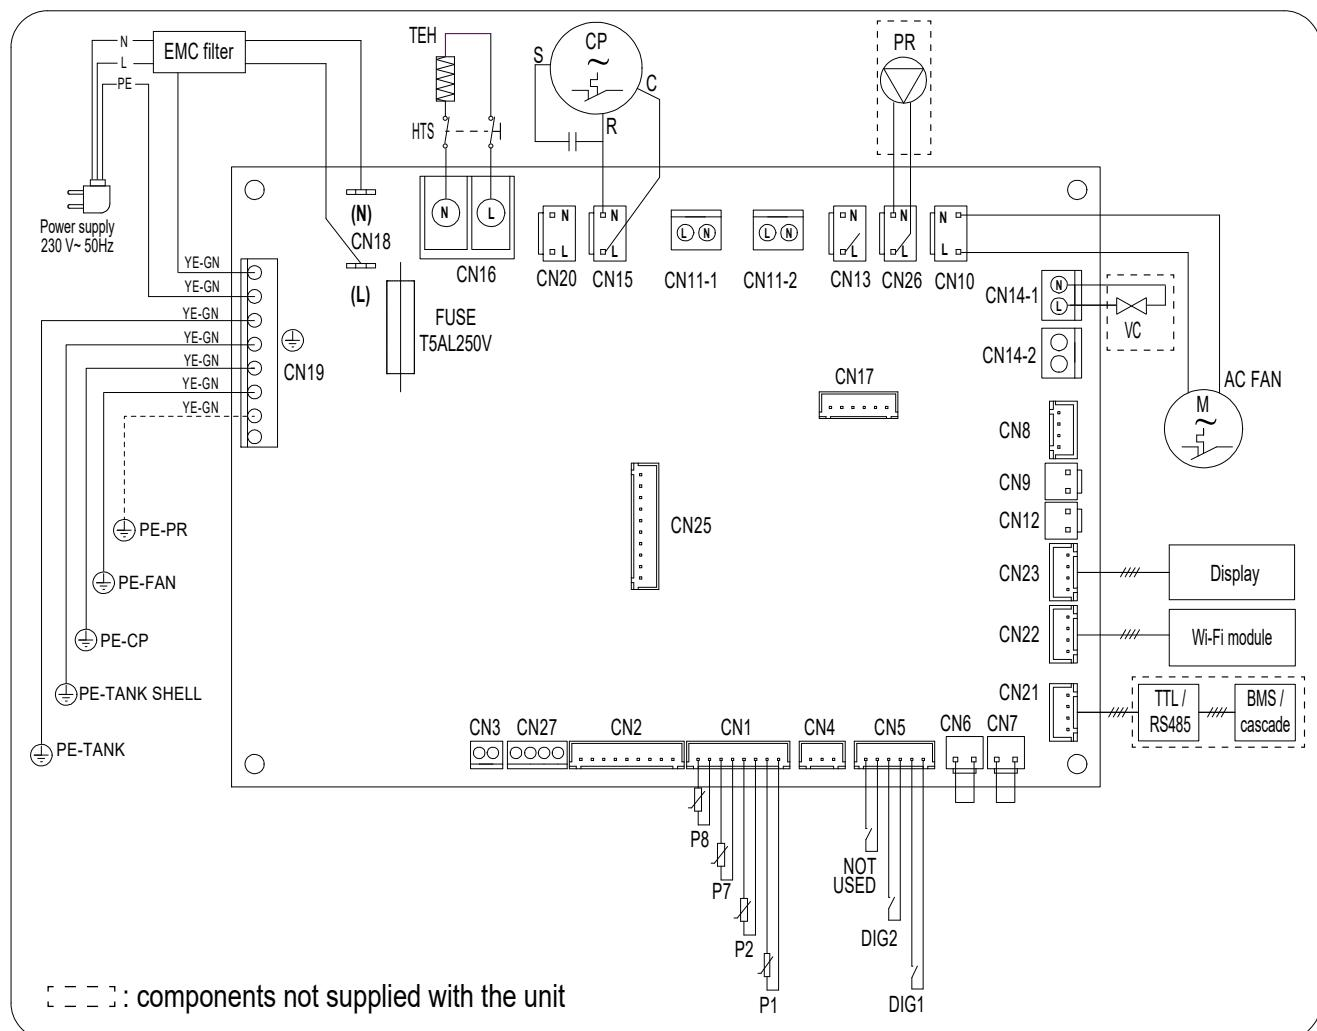

fig. 69 - Wiring diagram of the equipment
- 1) The recirculation pump (part.16) must be connected to terminal CN26 of the master motherboard (ref. "fig. 69 - Wiring diagram of the equipment" on page 118).
- 2) Fit a normally open solenoid valve (part. 19) for each unit in the cascade. The valve must be connected to terminal CN14-1 (ref. "fig. 69 - Wiring diagram of the equipment" on page 1184) of the mother board of each unit.
- 2) Fit a normally open solenoid valve (part. 19) for each unit in the cascade. The valve must be connected to terminal CN14-1 (ref. "fig. 69 - Wiring diagram of the equipment" on page 118) of the mother board of each unit.